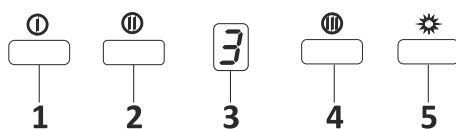

Fig. 16: 3 Spd Dig Button
1. ➔ Press this button to turn on the product. Product will also run on 1st speed level when this button is pressed. Fig. 16
2. ➔ Product will run on 2nd speed level when this button is pressed. Fig. 16
3. ➔ Dig display You can follow which speed the product is currently working on this display. Fig. 16
4. ➔ Product will run on 3rd speed level when this button is pressed. Fig. 16
5. ➔ Press this button to turn on and off the lamp. Fig. 16
6. ➤ Pressing and holding any of the motor operation buttons for more than 2 seconds will initiate a timer function of 15 minutes. A signal will be Displayed once the timer starts and the motor will stop automatically after 15 minutes. Fig. 16